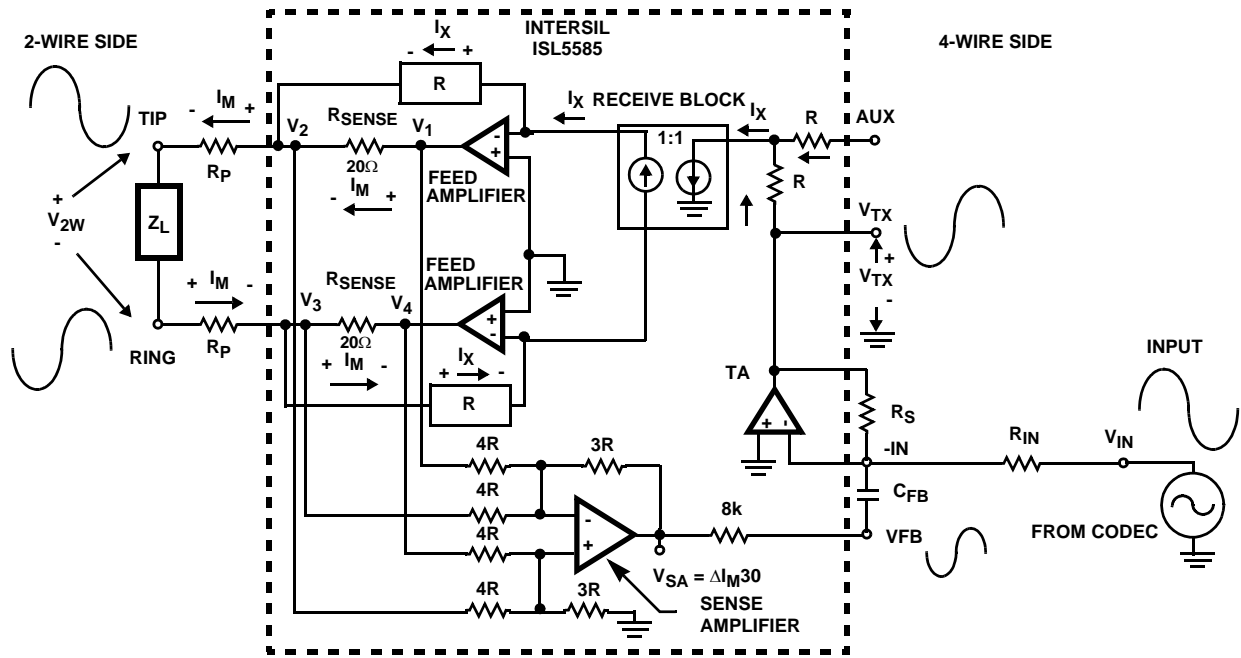

FIGURE 6. 4-WIRE TO 2-WIRE SIGNAL PHASE ACROSS THE ISL5585
Figure 6 illustrates the phase of the input signal across the ISL5585 when the signal is applied at the -IN pin of the ISL5585 through the R_{IN} resistor. The Transmit Amplifier (TA) inverts the signal 180 degrees at the VTX pin. The feedback around the tip amplifier inverts the signal again on the tip lead. The input signal will cause AC loop current to flow through the 20 Ω sense resistors in the direction from V 1 to V2 and V3 to V4. This results in an inverted signal (referenced from tip) on the VSA and thus the VFB pin. This